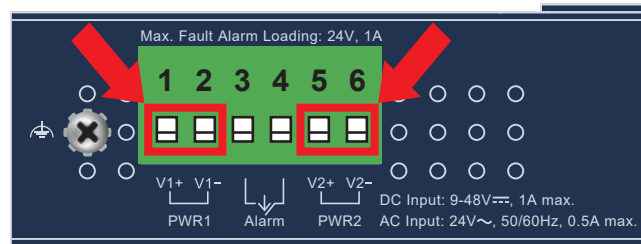

Figure 3-1: ICS-3100T/ICS-3105AT Upper Panel
1. Insert positive/negative DC power wires into **Contacts 1 and 2** for **Power 1**, or **Contacts 5 and 6** for **Power 2**. Figures 3-1 to 3-3 show PWR1 and PWR2 of the Industrial Serial Server.